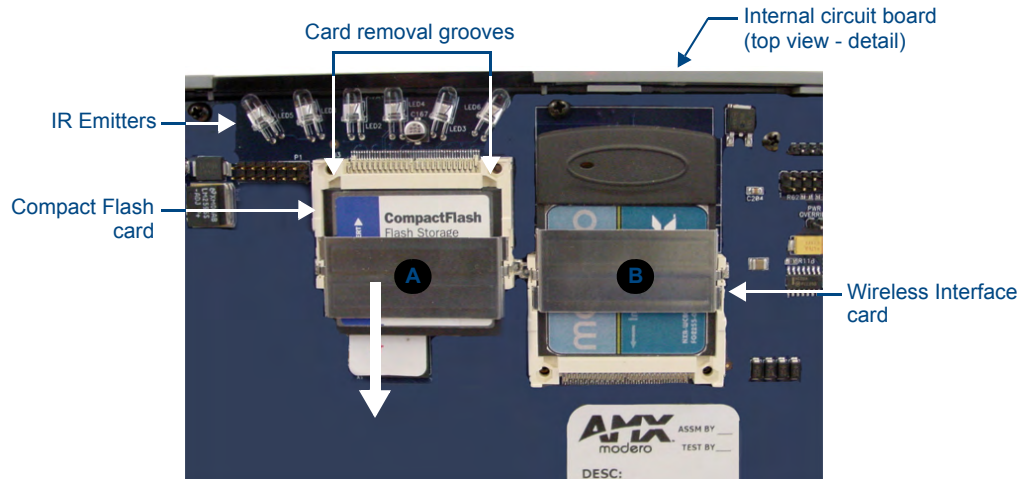

FIG. 6 Location and orientation of the Compact Flash cards (both MVP panels)
1. Discharge any static electricity from your body by touching a grounded metal object and then locate the card slot on the main circuit board (FIG. 6).
2. Place the circuit board on a flat level surface so that the IR Emitters are pointing away from you (FIG. 6).
1. Discharge any static electricity from your body by touching a grounded metal object and then locate the memory card slot on the main board (A in FIG. 6).